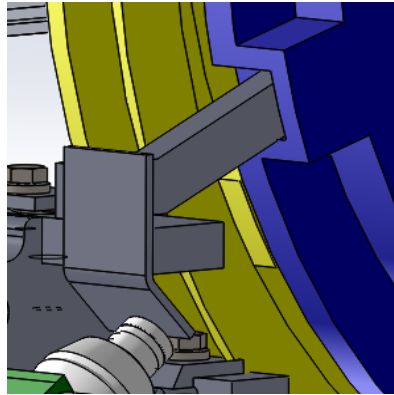

Figure 5
(1) Check whether the brake block is in the groove of the brake drum (Figure 5).
Special check whether the brake block is in the groove of the brake drum (Figure 5).
(2) After the above steps are ready, the elevator will be lifted up and the mechanical part of the rope brake part should be reset at the speed of repair. At this time, special attention should be paid to that the brake block should be stuck in the groove of the brake drum, as shown in Figure 5.